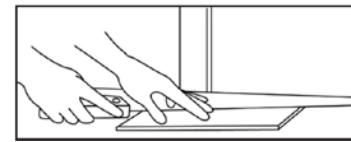

Figure 4
- Undercut door casings and jambs, removing existing base, shoe molding, or doorway thresholds. These items can be replaced post-installation, ensuring door casings and jambs are undercut to avoid challenging scribe cuts (Figure 4).